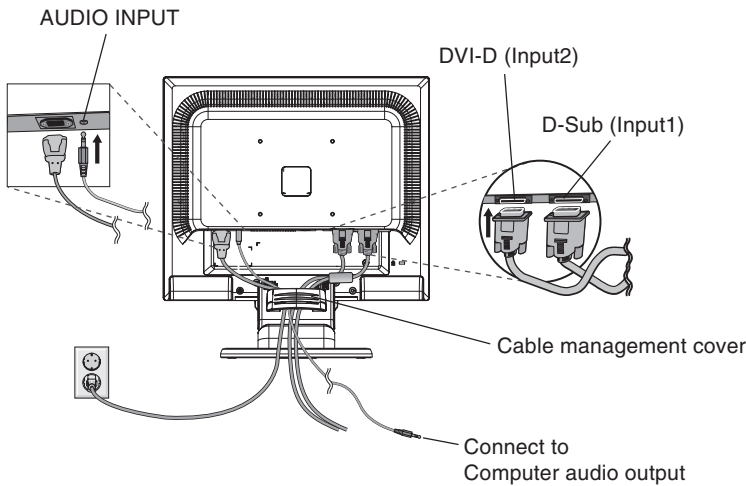
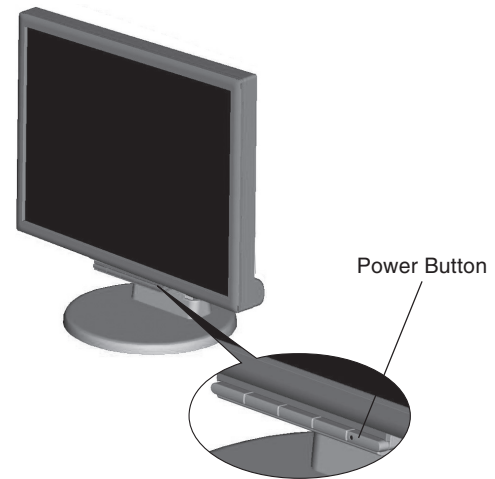

Figure B.1
Figure C.1
- Connect all cables to the appropriate connector on the back of the monitor (**Figure B.1**). Connect the Headphone (not included) to the appropriate connector at the rear side of the monitor (**Figure C.1**).
- Connect one end of the power cord to the monitor and the other end to the power outlet. Place the Video Signal Cable, Audio cable and power cord to the Cable management cover (**Figure B.1**).
- Turn on the monitor with the front power button and the computer (**Figure C.1**).